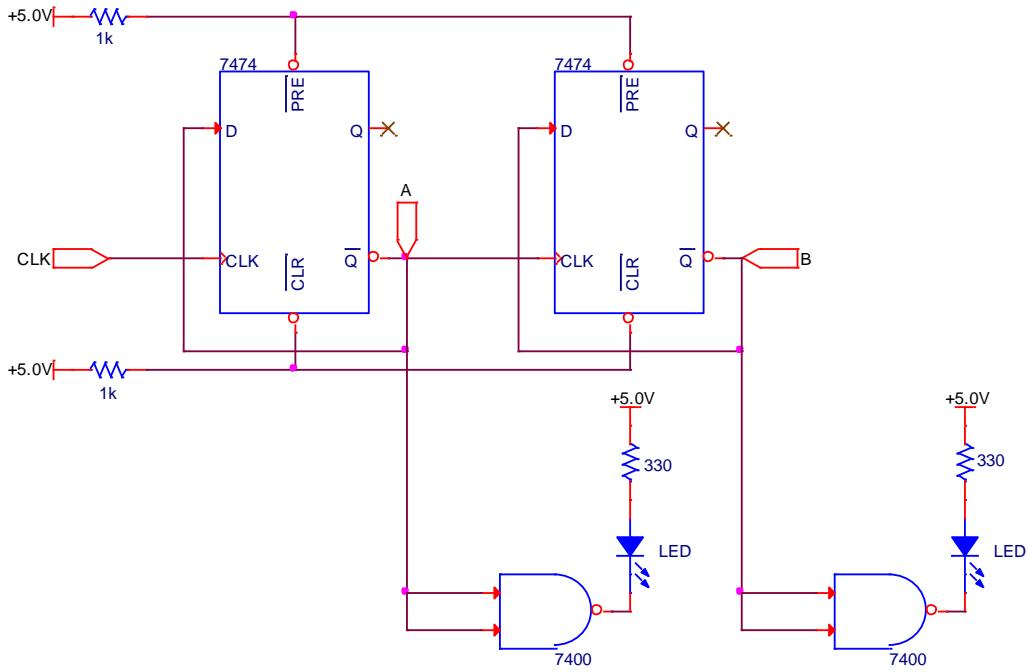

Figure 12.6
7. Next, we will change the manner in which flip-flop B is clocked. Change the circuit to that of Figure 12.6.